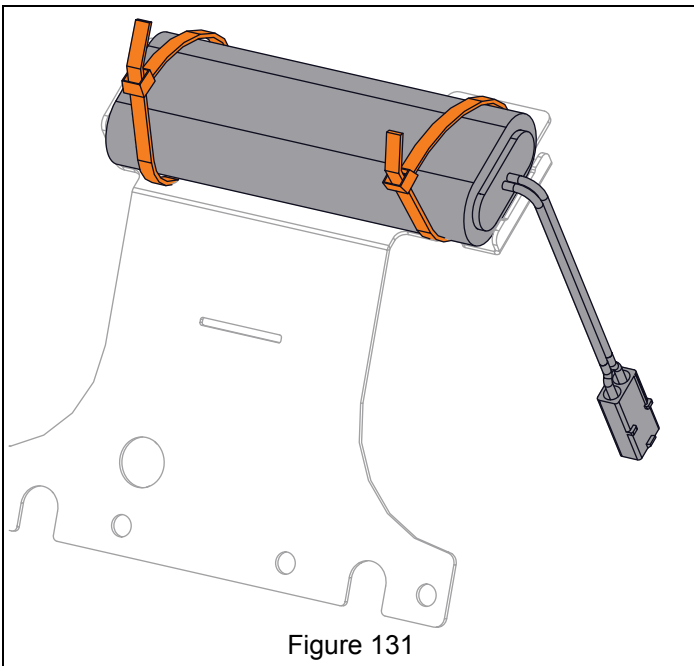

Figure 131
4. Remove hardware retaining ECU bracket and remove bracket. See Figure 131.